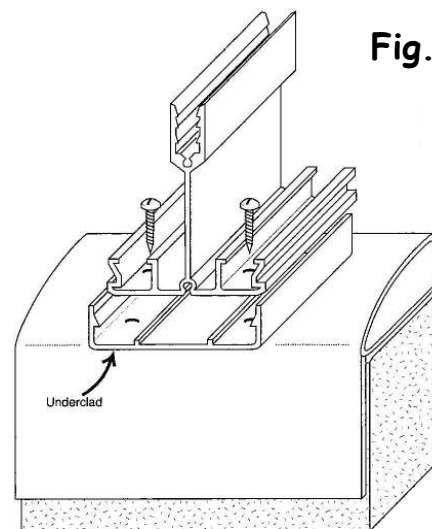

Fig.4
Step 3: Screw the aluminium base bar to the eaves beam and wall plate and to any purlins if they are being used, remembering to start and finish the roof with a base bar (Fig.4).